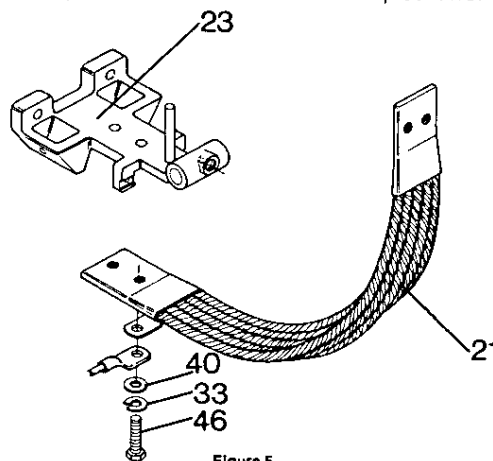

Figure 5
- With all power removed, disconnect the arc chute wires by removing the hex head cap screws (46), lockwashers (33), washers (40), arc chute wires and shunt (21).
- Remove the arc chute by removing hex head nut (12), lockwasher (8), washer (19), hex head cap screw (17) and the arc chute.
- Reconnect arc chute wires and shunt (Fig. 5) using the washers, lockwashers and hex head cap screws.
- With all power removed, disconnect the bottom end of the shunt (21) by removing hex head cap screws, lockwashers, washers, arc chute wires and the shunt.
- Disconnect the top end of the shunt (21) by removing hex head nuts, lockwashers, washers and the shunt.
- Check that auxiliary arm pin (27) is centered and set screws (18) are tight.
- Connect the bottom end of the shunt by replacing the shunt, arc chute wires, washers, lockwashers and hex head cap screws (Fig. 5).